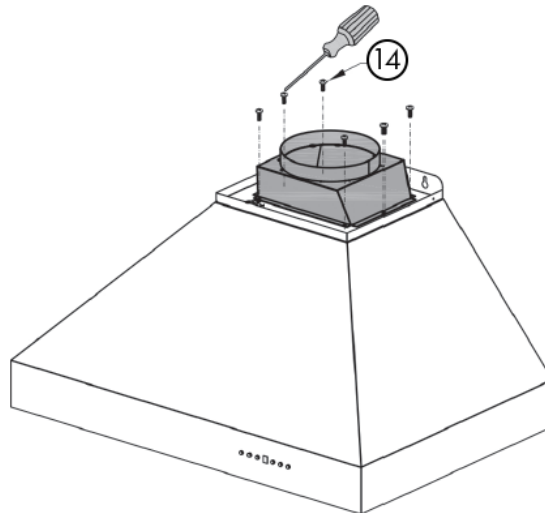

Figure 3
3. Install the transition piece on top of the range hood by securing it with screws (Item No. 14) provided. Some hoods require 4 screws, others require 6. *Figure 3*